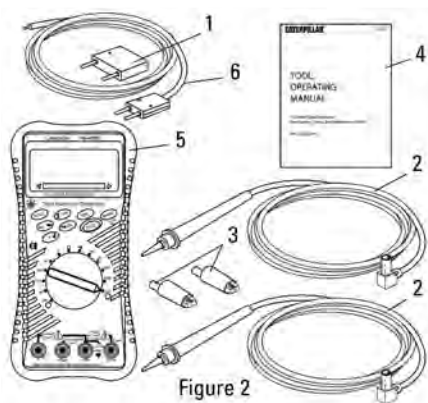

Figure 2
- Group includes items in Figure 2